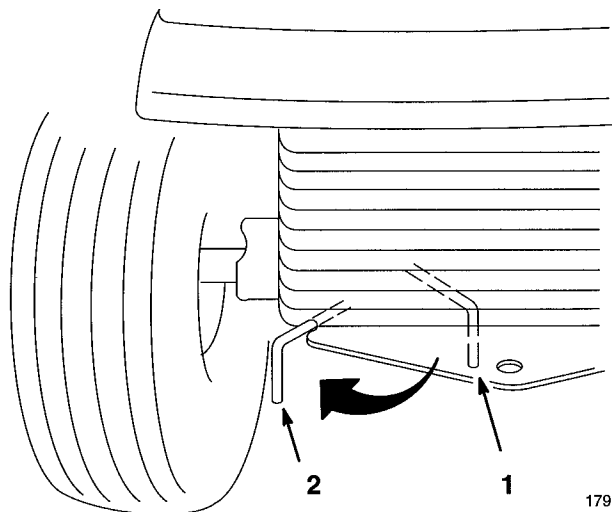

Figure 11
2. Hook the drive control in the "PUSH" position. This disengages the drive system and allows the wheels to turn freely (Fig. 11).
1. MOVE the drive control to the "OPERATE" position. This engages the drive system (Fig. 11).